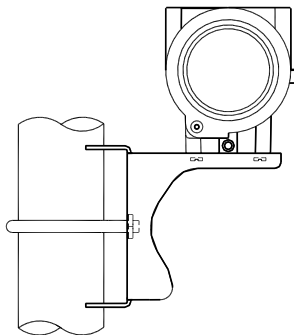

Figure 2.3 The installation of pipe
**The installation of pipe mounting angle bracket:** the typical installation as Figure 2.3, 2.4 shows. Fix NCS-IF105 converter in angle bracket using four bolts provided, and then fix the angle bracket on the horizontal pipe in  $\Phi 50\text{mm}$  around through the U-shape bolt provided.